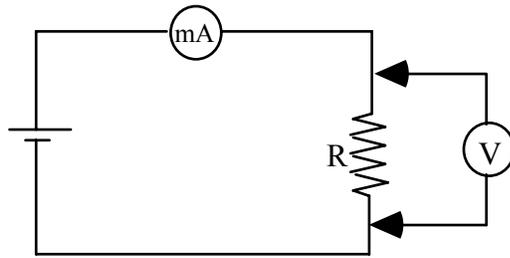

Figure 1.
1. Connect a circuit as shown in Fig.1